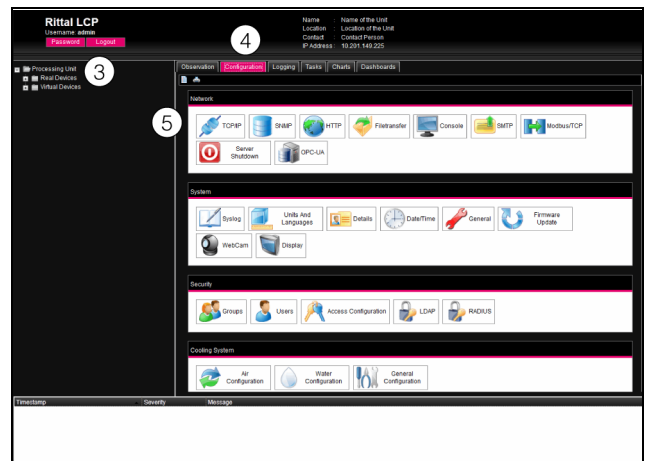

Fig. 88: Adjusting the TCP/IP settings
The overview window for the device will appear (fig. 88).
- In the left-hand section of the overview window (navigation area), click on the **Processing Unit** entry (fig. 88, item 3) and in the right-hand section (configuration area), click on the **Configuration** tab (fig. 88, item 4).
- In the group box Network, click on the TCP/IP button (fig. 88, item 5).